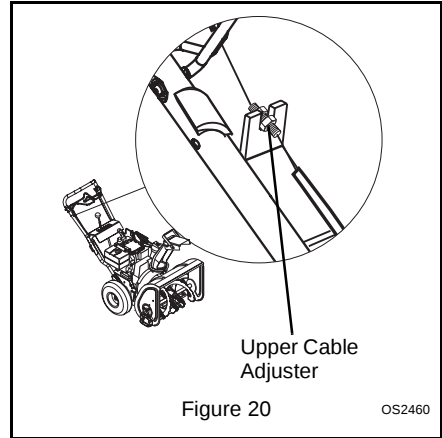

Figure 20
a. Center the upper cable adjuster on the mounting bracket, if necessary (Figure 20).